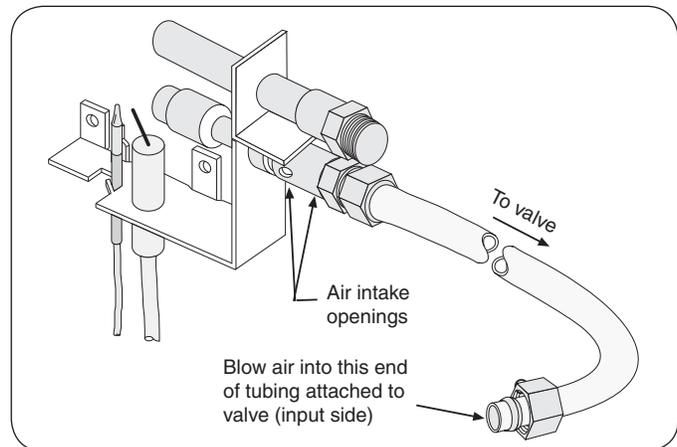

Fig. 20-2
2. Clean out both air intake openings (see Fig. 20-2) by lightly brushing around the openings while vacuuming.